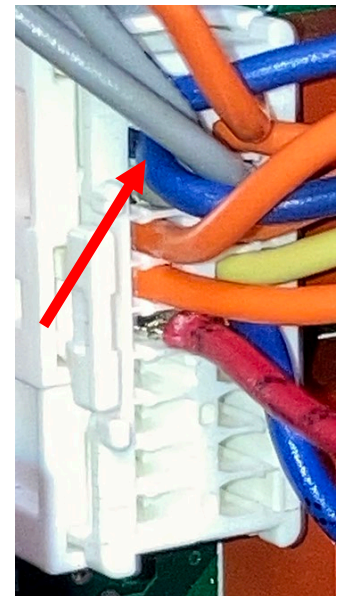

Figure 28
- j. Insert the red wire directly under the orange wire, on the J1 vertical connector attached to the SIB board (see Figure 28). **(NOTE: Orient the flag of the wire terminal towards the outer edge of the plastic connector).** Gently pull on the connector to ensure it is locked into place.